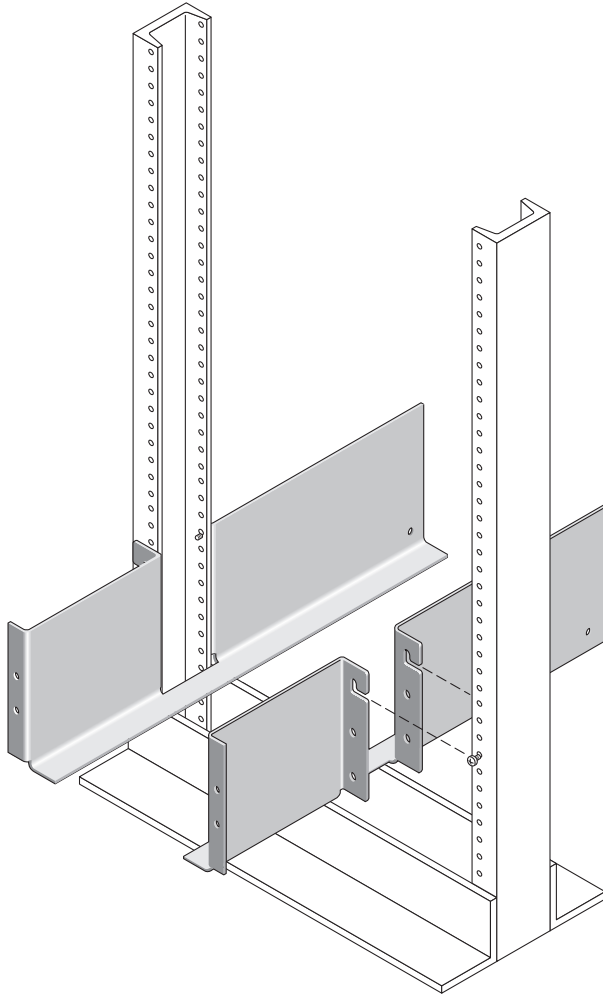

FIGURE 3 Seating the Mounting Rails Over the Front and Back Screws of the Telco 2-Post Rack
2. Align the open slot of the left mounting rail over the front and back screws of the left post, and press the rail down until it is seated over the screws (FIGURE 3). Repeat for the right rail.